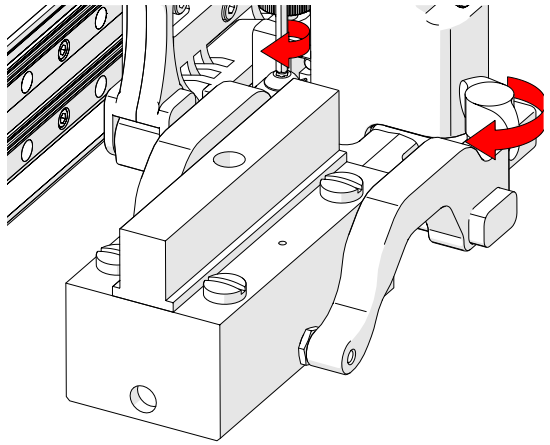

Fig. 93 - Tighten knobs and screws
7. Tighten the probe holder adjustment knob and the arm clamp screw (Fig. 93) while ensuring the wedge remains centred with the yoke.